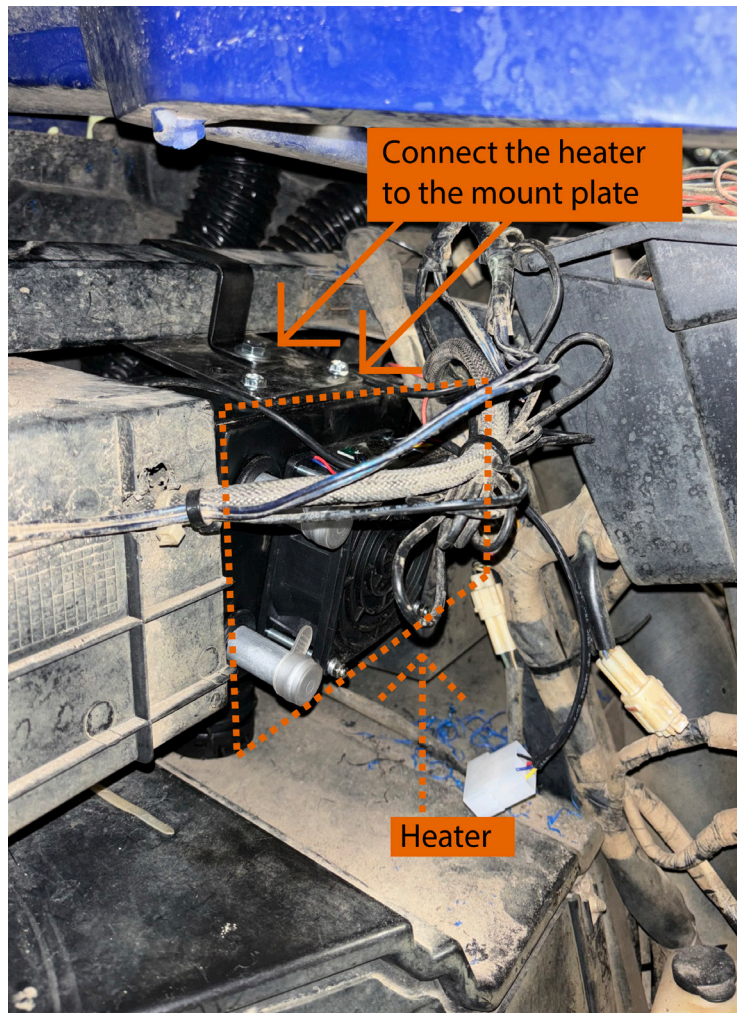

FIGURE 6
16. Connect the heater to the mount using hardware on the heater. FIGURE 6